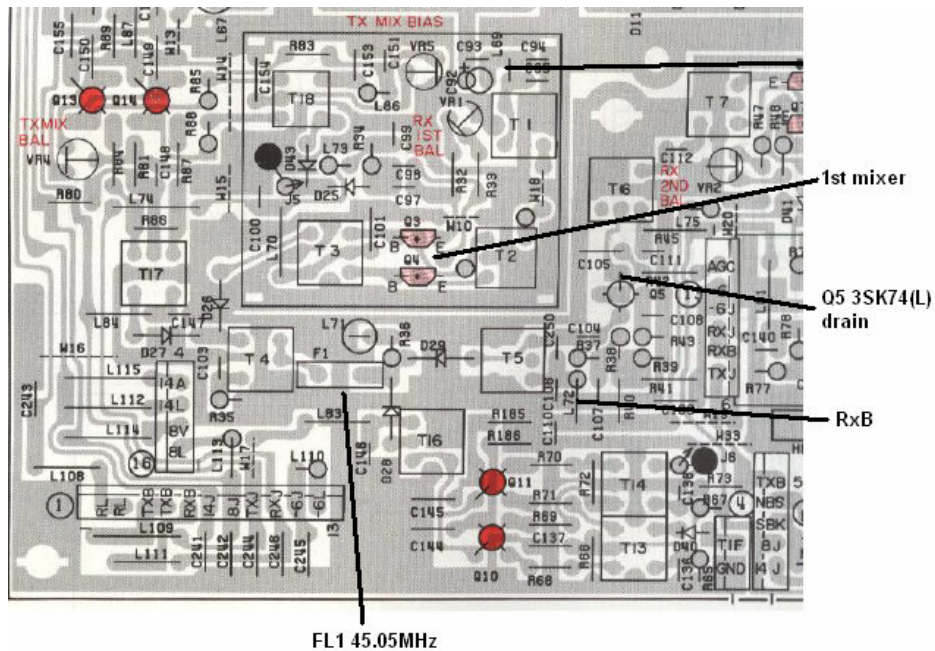

Fig 2 – Overlay of RF board, showing pickup points for PAT input (3SK74 drain) and RxB (L72)
8. Connect the other end of the +RxB lead to L72 as shown in Figs 2 below. Check with a voltmeter that you have approx 8.5V present on Rx, and when you go to Tx it drops to around 0.1V.
10. Use a short length of RG178 (60 to 70mm) to connect the PAT input to the drain of Q5 (3SK74L) as in Fig 2. There is no braid connection at the FET end – see Fig 1